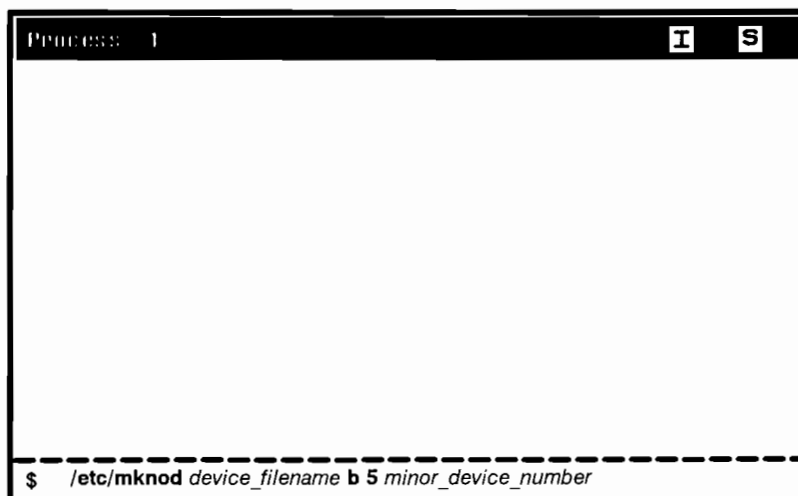

Figure 5-2. *mknod* Command
2. Use the **mknod** command to create a device file for the drive as shown in Figure 5-2: